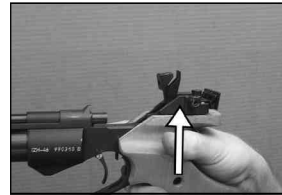

Figure 14
**WARNING:** Do not over-travel or force the cocking handle or you could damage your Air Pistol. At this point, the bolt should be locked up and the air bypass should be closed. See **Figure 14**. Do not pull past the click sound/feel and **never use excessive force when cocking the air pistol**.